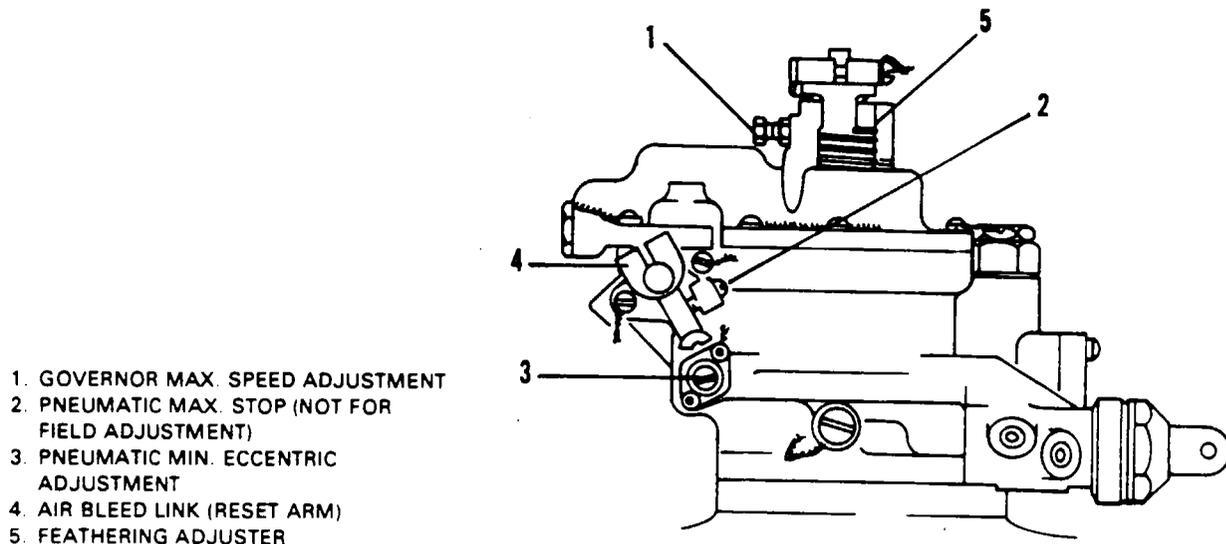

Figure 61-3. Propeller Governor
**CONSTANT SPEED GOVERNOR ADJUSTMENTS.** (Refer to Figure 61-3 and Chapter 76.)
6. Loosen the locknut and adjust the governing maximum speed adjuster (1. of Figure 61-3) to obtain the desired Np. Counterclockwise rotation of screw increases speed. Tighten the locknut when adjustment is completed.
*Do not disturb the pneumatic maximum adjustment (2, of Figure 61-3).*
11. Restart and run engine. With the propeller control lever set in fine pitch, advance the power control lever sufficiently to obtain a constant speed condition and check that Np governs in a range of 2068 to 2112 rpm. Adjust the pneumatic minimum eccentric adjuster (3, of Figure 61-3), as necessary to meet this requirement.